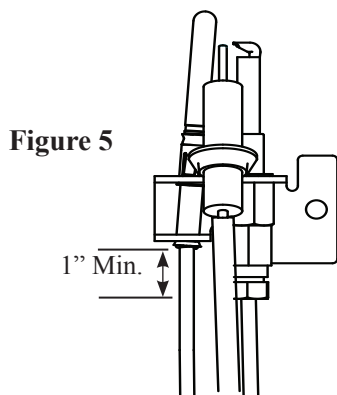

Figure 5
Attach the new pilot assembly to the bracket on the main burner or the bracket on the burner supply tube and secure it with the new pilot assembly attachment screw (supplied). **DO NOT** bend the thermocouple within one (1) inch of the weld joint and make sure there are no sharp bends when installing, as this may damage the thermocouple. See Figure 5